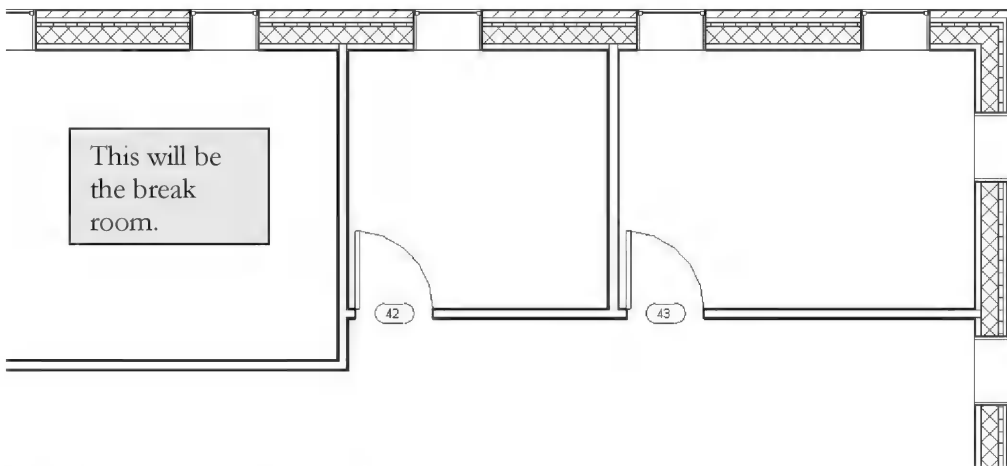

FIGURE 11-2.1 Level 1 – north-east corner
2. Switch to **Level 1** view and zoom into the area shown in **Figure 11-2.1**.